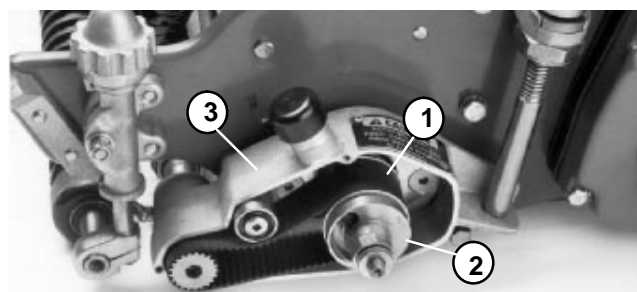

Figure 30
10. Complete the reinstallation of the clutch assembly and belt drive housing by following the instructions in **Clutch Assembly Reinstallation** (Fig. 30).